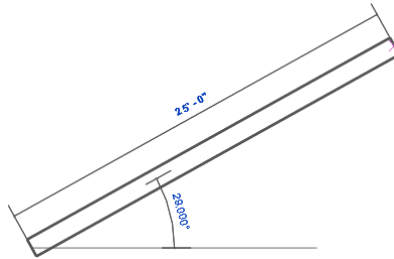

Figure 3-31 The temporary dimensions displayed on the wall
- Right-click in the drawing area; a shortcut menu is displayed. Choose the **Zoom In Region** option from the shortcut menu and zoom into the area to get a closer view of the sketched wall segment, as shown in Figure 3-31 (for zooming techniques, refer to Chapter 2- Starting an Architectural Project).